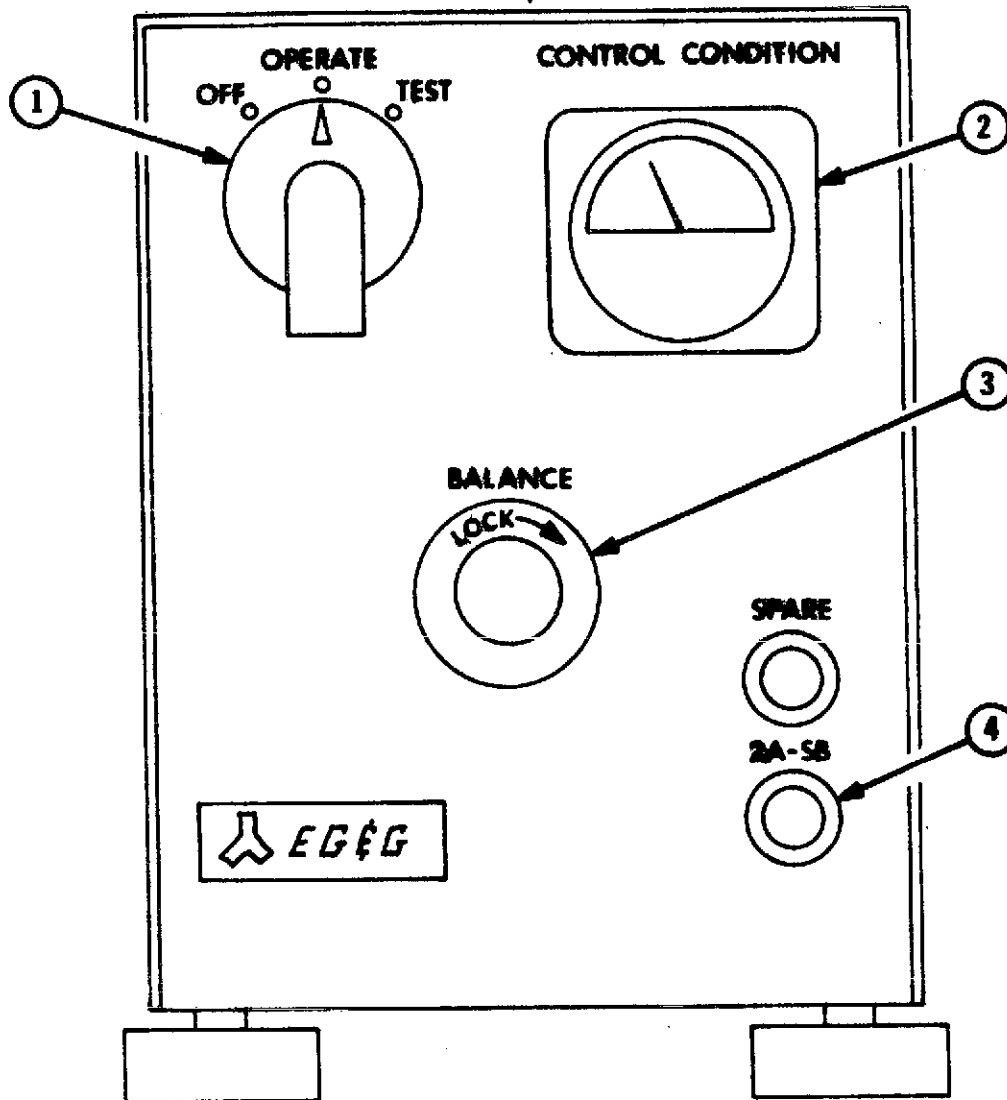

Figure 2-6. Hygrometer Control
2.7 HYGROMETER CONTROL (FIGURE 2-6)